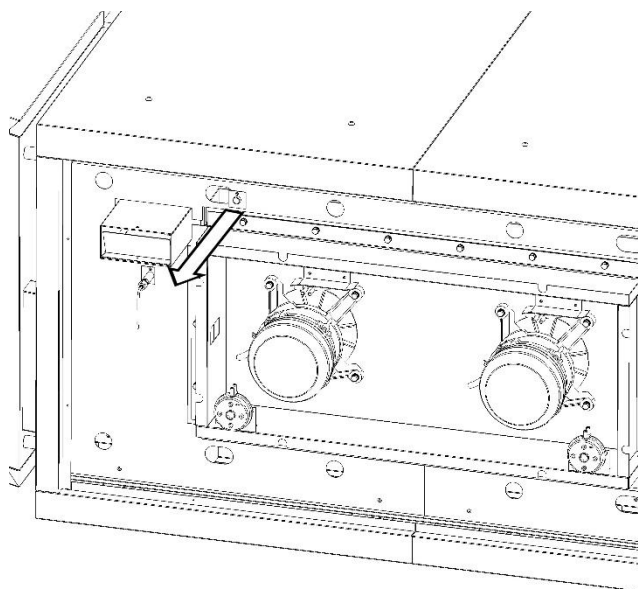

Fig.14B
- 5.Remove the silicone seal of the probe remove the bulb, loosen the screws and replace the thermostat (Fig.14B)